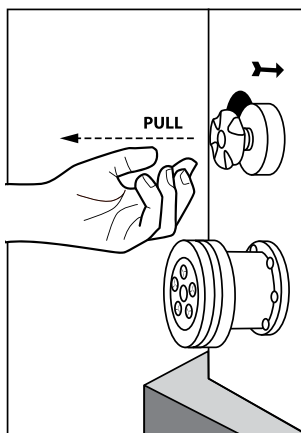

Fig 3
- The mixer is firmly engaged and that the latch holding the mixer-pin is fully closed. (fig.3)